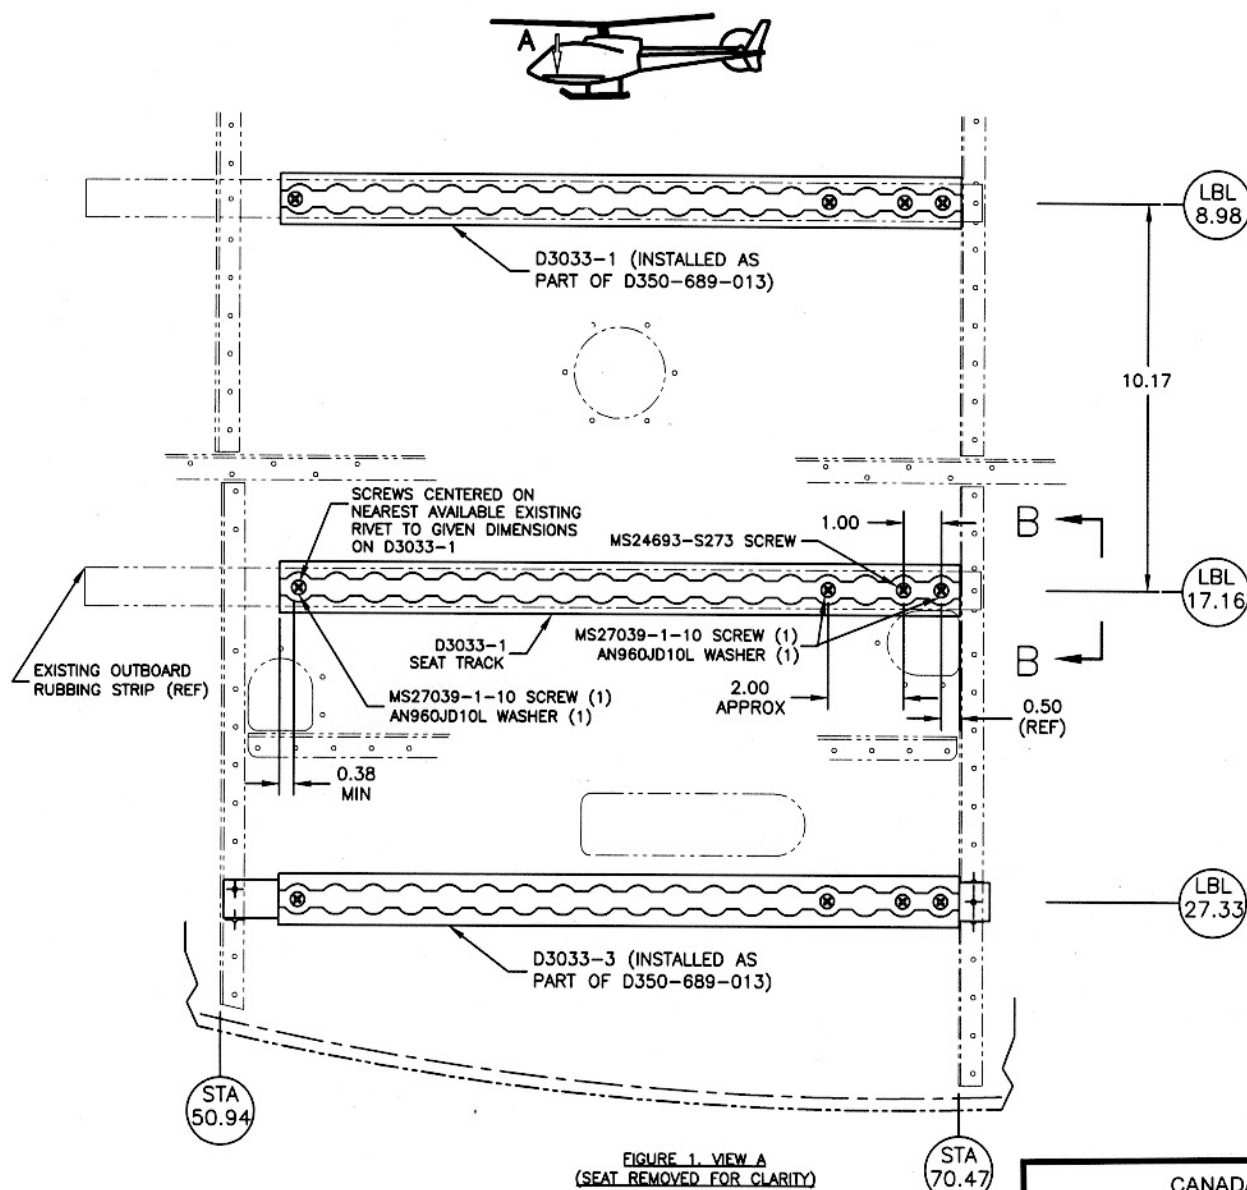

FIGURE 1. VIEW A
4. TRANSFER DRILL $\varnothing 0.128"$ FROM FLOOR TO D3033-1 SEAT TRACK USING THE RIVET HOLES THAT WILL MOST CLOSELY GIVE THE DIMENSIONS SHOWN IN FIGURE 1.
7. INSTALL MS21059L3 NUTPLATES WITH MS20426AD3-6 RIVETS (4 PLACES) PER FIGURE 1.
8. INSTALL D3033-1 SEAT TRACK PER FIGURE 1.